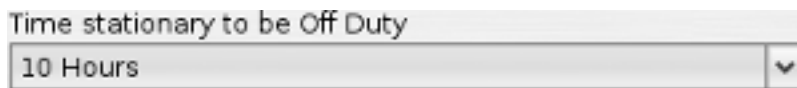

Figure 5.43. Time Stationary to be Off Duty Setting
2. Under the "GPS Device Settings" section change the "Time stationary to be Off Duty" setting to the desired value see Figure 5.43, "Time Stationary to be Off Duty Setting".